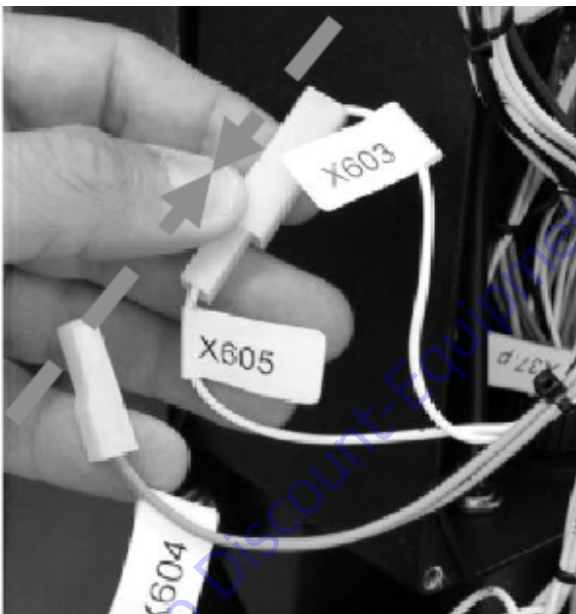

Figure 4-21.
12. Connect connector X603 to connector X605. See Figure 4-21.